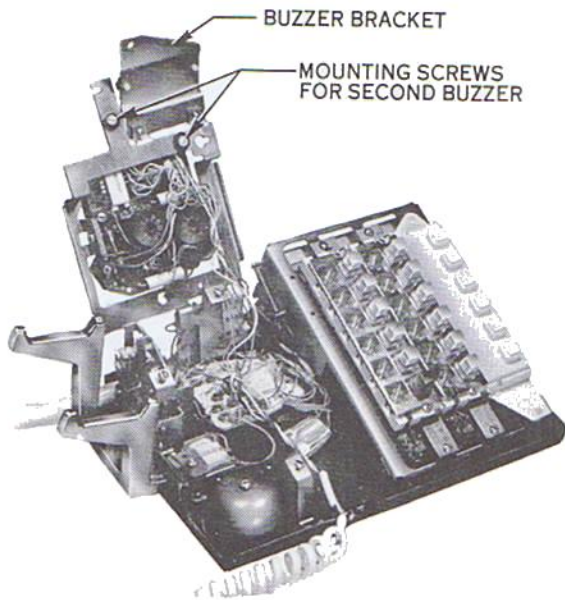

Fig. 12 - Mounting Location for Second Buzzer
7.02 A second KS-8100 type buzzer can be mounted beneath the dial mounting plate (Fig. 12). The dial mounting plate must be temporarily removed from the set to gain access to the two nylon screws and four insulating washers.